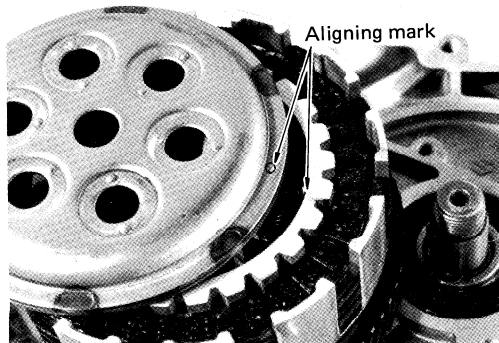

Fig. 5-5-20
D. Align the positioning mark on the clutch pressure plate with the mark on the edge of the clutch sleeve hub, (Fig. 5-5-20)